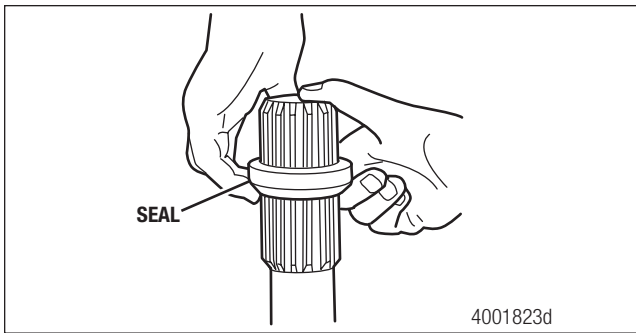
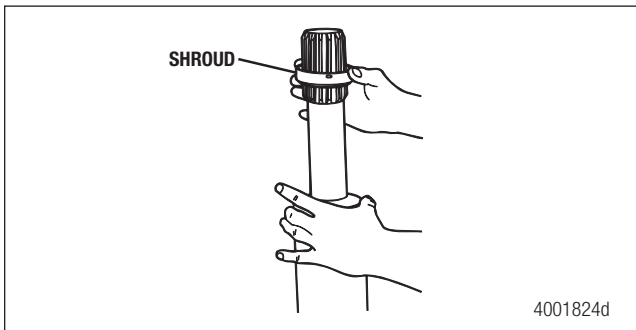

Figure 8.4
Figure 8.5
5. Remove the seal and shroud. Figure 8.4 and Figure 8.5.